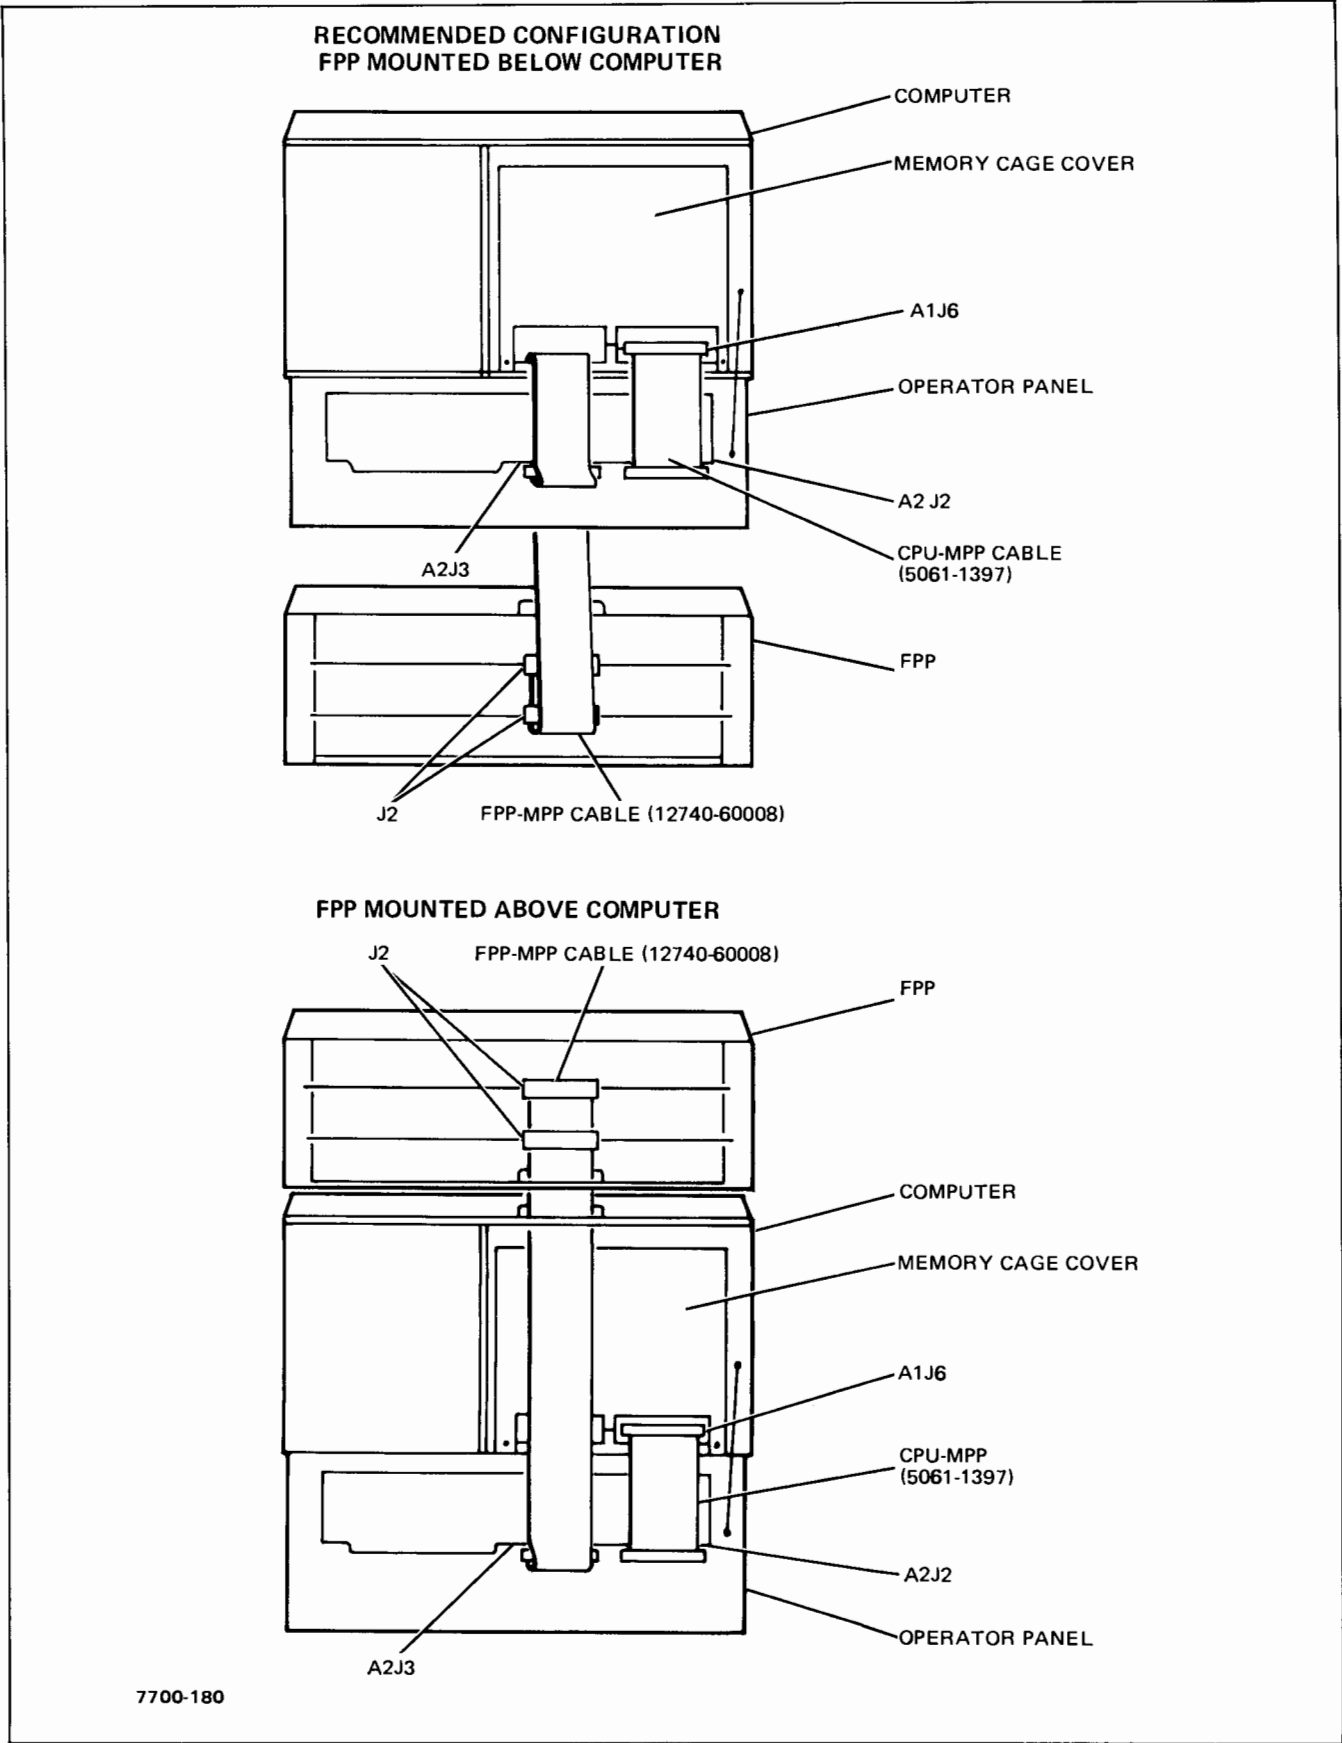

Figure 1-11. FPP-MPP and CPU-MPP Cable Connections
- Connect the two closely-spaced connectors of the cable to connectors J2 on the FPP ARITHmetical and CONTROL PCA's. (See figure 1-11.)
- Connect the third connector to MPP connector J3 on the operator panel PCA (figure 1-11).